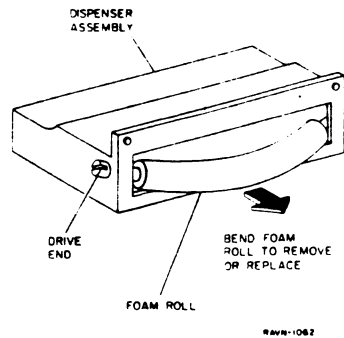

Figure 1. Removing and Replacing the Foam Roll
3. REMOVE FOAM ROLL (FIGURE 1).